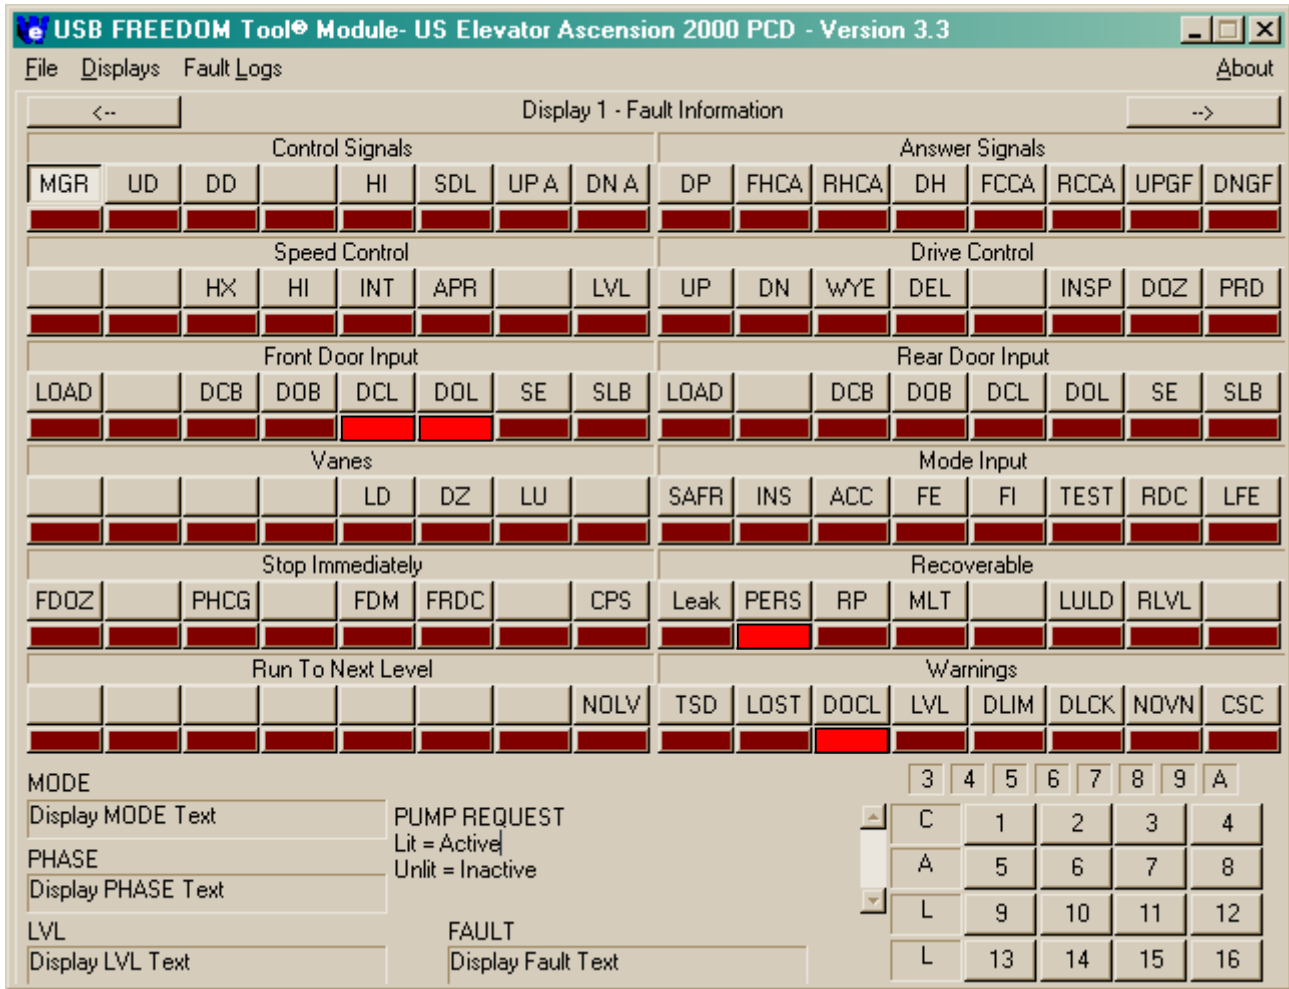

Figure 47
The user can see various inputs and outputs among other items using the display windows. Depending on what elevator system is being diagnosed there can be up to 15 display windows. Each of these windows is unique in what they display, but have the same operational functions. Figure 47 depicts a Display window for the Ascension 2000 elevator control system. The basic display window contains: twelve signal groups with eight control signals each, a title block, Fault mode description, Mode of operation description, Phase description, landing indicator, signal descriptor, sixty-four signal pushbuttons, 16 call pushbuttons, and 2 pushbuttons to move forward or backward one(1) display for the selected elevator controller. The operation of these items is described as follows:
The Title Bar of the Display Window informs the user to the display selected. In the case of Figure 47, the display selected is **Display 1 – Fault Information**. The title of the displays depends upon the elevator system and the display selected.
Every display window contains twelve signal groups. These signal groups organize the different elevator control signals into functional groups. In Figure 47, the signal groups are: Control Signals, Answer Signals, Speed Control, Drive Control, Front Door Input, Rear Door Input, Vanes, Mode Input, Stop Immediately, Recoverable, Run To Next Level, and Warnings. Within each signal group are eight signal indicators and eight signal buttons. The signal indicators represent LED's within the PCD tool. If the signal indicators are red the signal is active. Otherwise, the signal is inactive. Any time a different display is selected or the elevator system being diagnosed is changed, the signal group names will change.